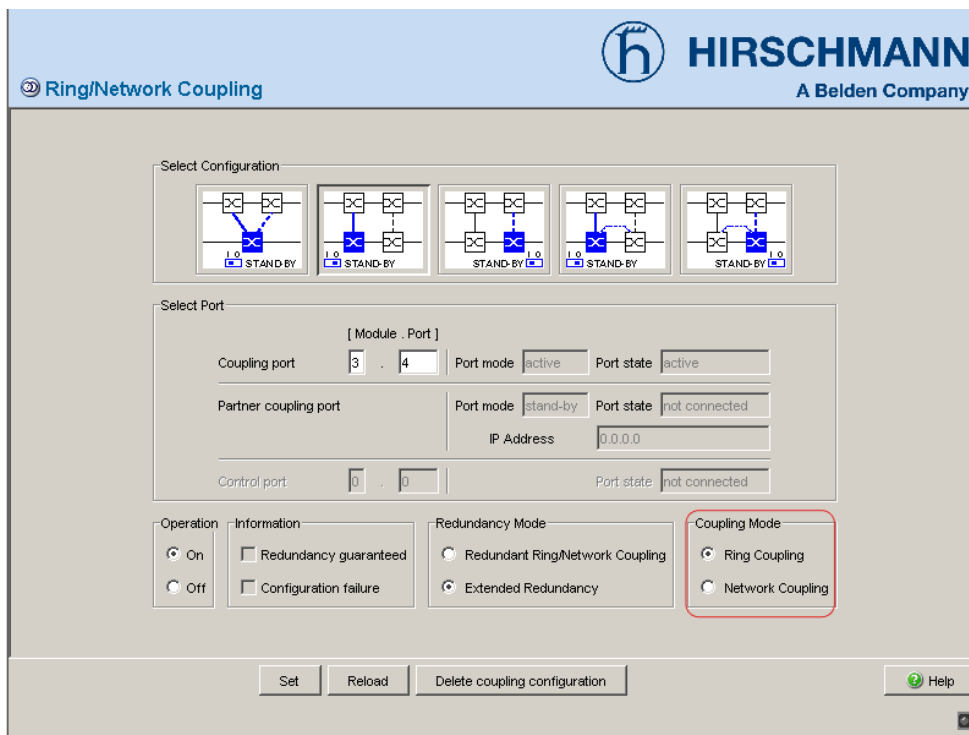

Figure 50: Selecting the coupling mode
- In the “Coupling Mode” frame, select (see fig. 50)